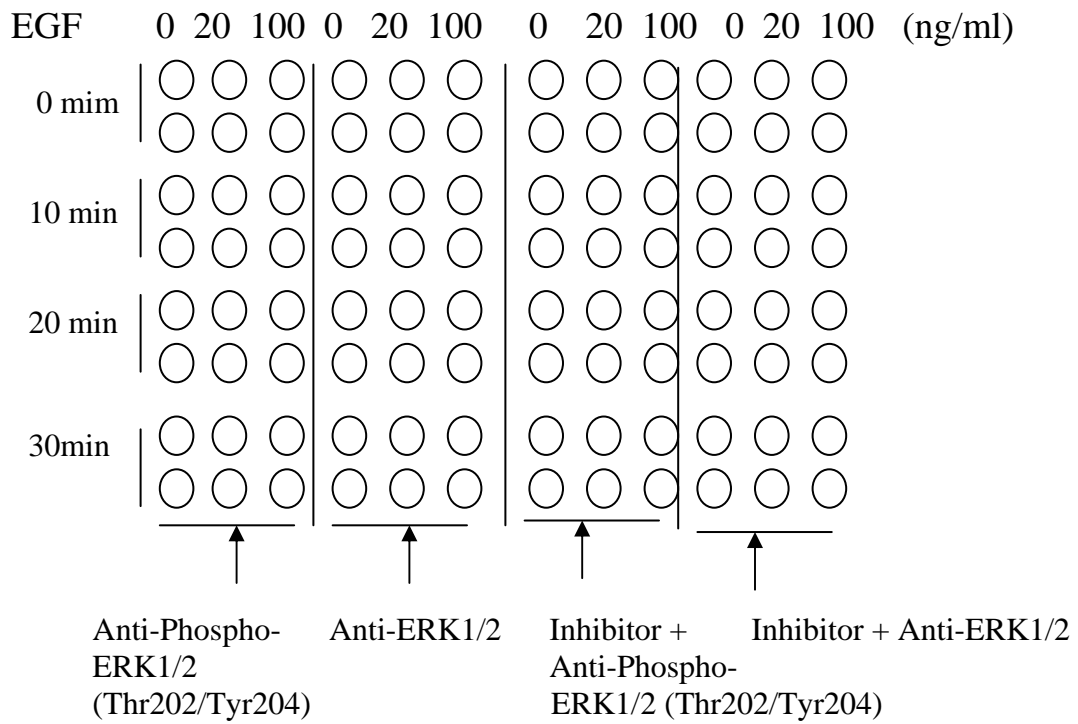

Fig. 2. Example of how to seed cells for RayBio® cell-based assay
1. Design your experiment. For example, see Fig 2 and 3.